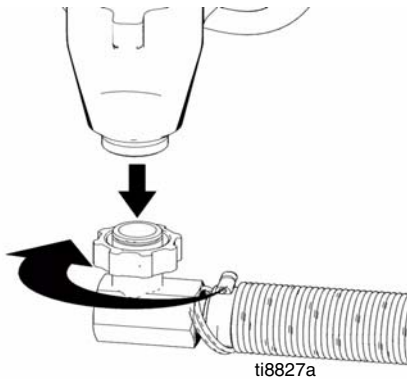

FIG. 13
3. (Fig. 13) Remove suction hose (114).